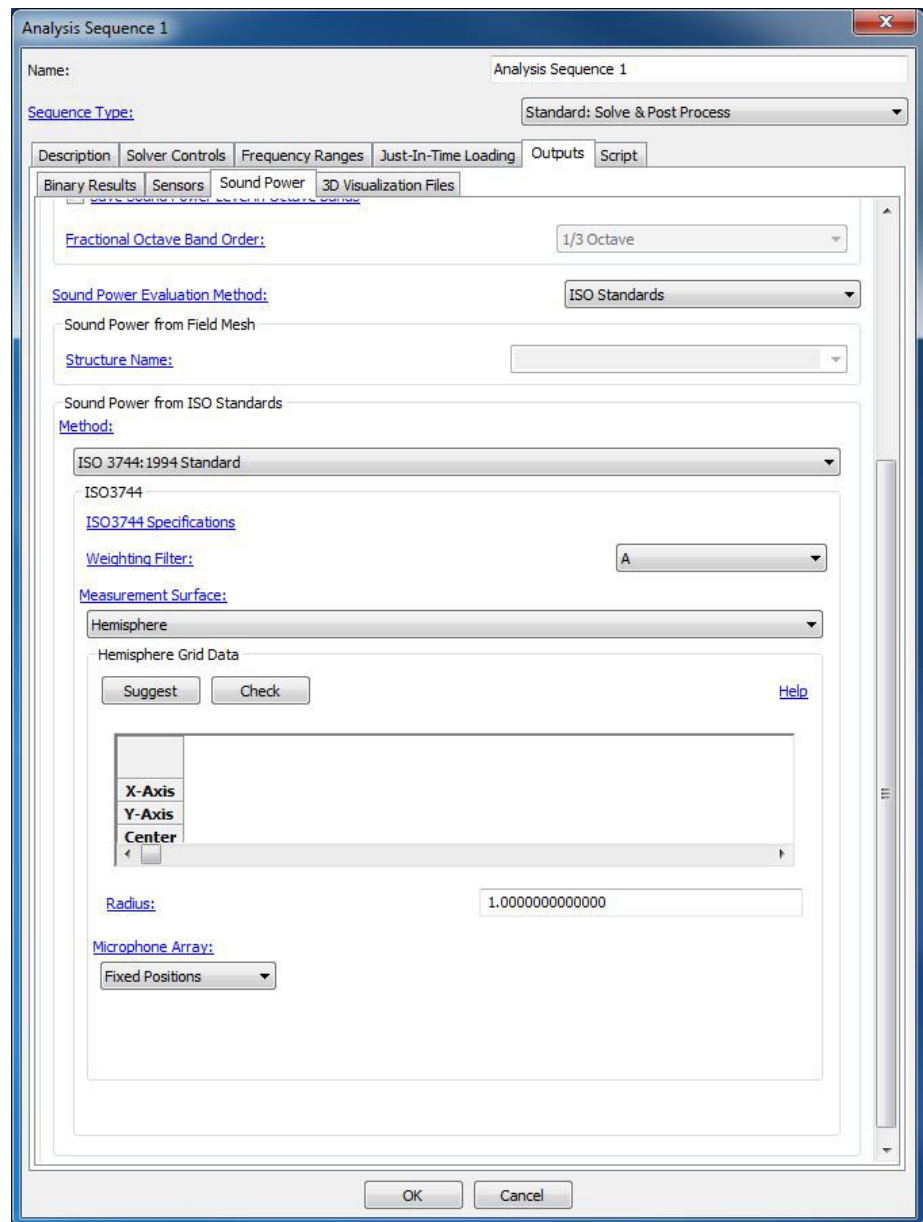

Figure 7.35 ISO3744 sound power standard window.
7.3.4.8. ISO Standards In this method, sound power is computed from **ISO Standards**. The following standard methods are implemented: **ISO 3744**, **ISO 3745** and **ISO 9614-1**. Figure 7.35 shows the Sound Power Standards outputs window.
ISO 3744 is an international standard that specifies a method to determine sound power levels of noise sources using sound pressure measurements ([2]). The sound pressure levels are measured on a measurement surface enveloping the source. This method is applicable in an essentially free field near one or more reflecting planes. This method produces results that are of engineering grade (or grade 2) accuracy. For precision grade (grade 1) accuracy use methods specified in **ISO 3745**. Figure 7.35.